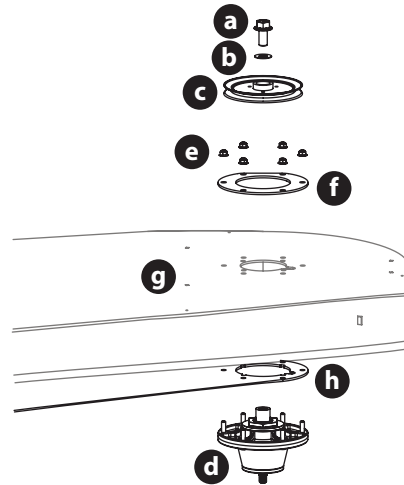
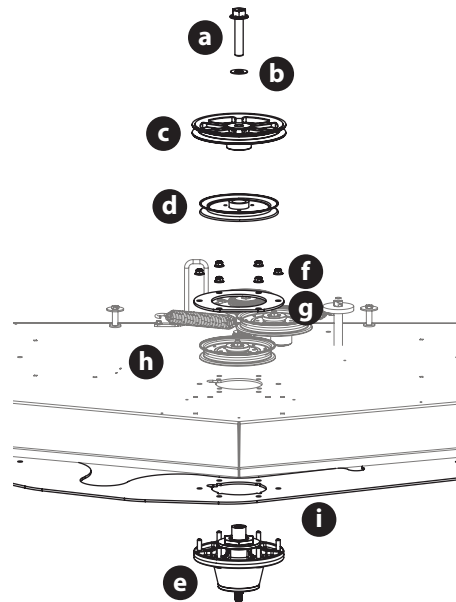

Fig. 59
Fig. 60
- Remove the hex flange bolts (a) and flat washers (b) securing the left and right spindle pulleys (c) to the spindle assembly (d) (Fig. 59).
- Remove the 6 flange lock nuts (e) securing the left and right spindle assemblies (d) and the support plates (f) to the deck shell (g) (Fig. 59).
**NOTE:** The deck support plate (h) does not need to be removed unless all three spindles are being replaced (Fig. 59).
- Remove the hex flange bolt (a) and flat washer (b) securing the drive pulley (c) and center spindle pulley (d) to the spindle assembly (e) (Fig. 60).
- Remove the 6 flange lock nuts (f) securing the center spindle pulley (d), spindle assembly (e) and the support plates (g) to the deck shell (h) (Fig. 60).
**NOTE:** The deck support plate (i) does not need to be removed unless all three spindles are being replaced (Fig. 60).
- Reverse the process to install the spindle assembly. When installing the new spindle assembly be sure to install the hardware exactly (Fig. 59 and Fig. 60). Torque the hex flange bolts to 250 ft-lbs (339 N-m) and the flange lock nuts to 21-32 ft-lbs (28-43 N-m).